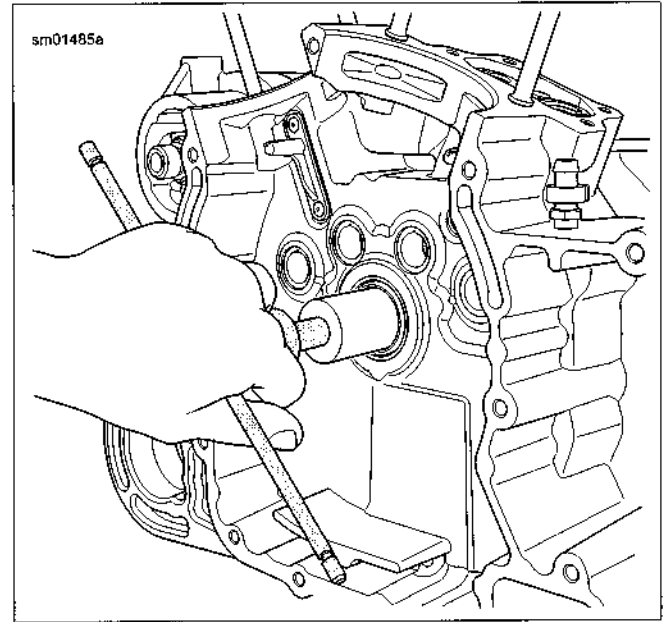

Figure 3-91. Line Reaming Pinion Shaft Bushing
3. See Figure 3-91. Install a PILOT (Part No. HD-94812-87) into right crankcase roller race. Insert REAMER (Part No. HD-94812-1) through the pilot.